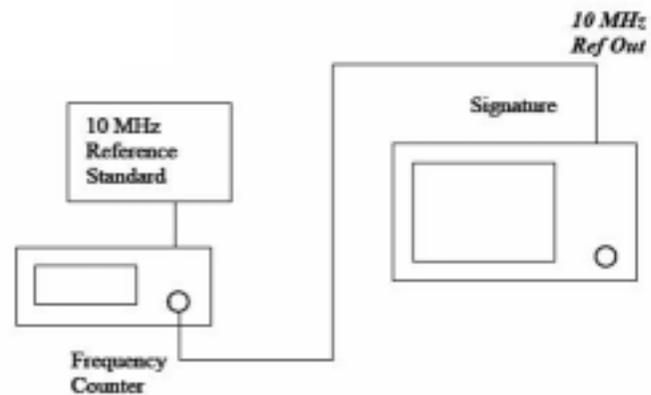

Figure 4-1. Reference Oscillator Calibration Setup, Method 1
- Step 1.** Set up the equipment as shown in Figure 4-1 above.